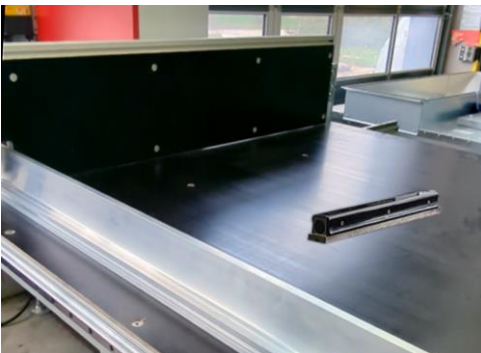

Figure 18: Level the sliding table
- If there are any deviations, you can correct them using the levelling feet (see also ⇒ Figure 18).
1. Place a spirit level on the tabletop once lengthwise and once crosswise (see examples in ⇒ Figure 18).